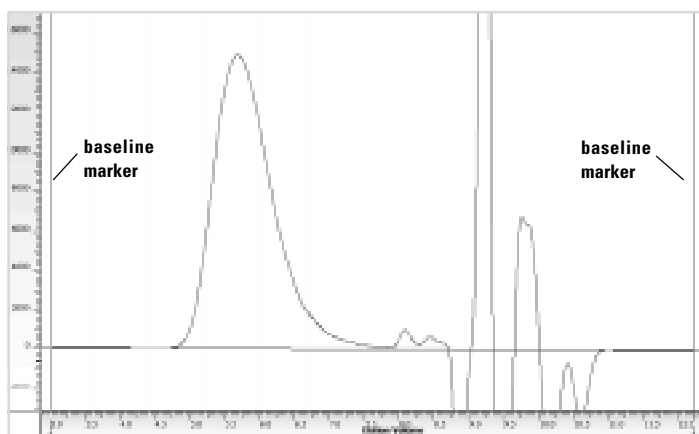

Figure 9:
7. In the raw data-(R) part define next the baseline by moving the red triangles to the correct positions. Ideally the baseline should be taken as a straight line between the elution prior to the size exclusion limit, about 4 mL, and that after the last impurity peak, i.e. areas in which no elution can take place in an ideal GPC separation^(1,3), refer to figure 9. For setting the baseline correctly make sure by zooming in to about 10% of total peak height that there is